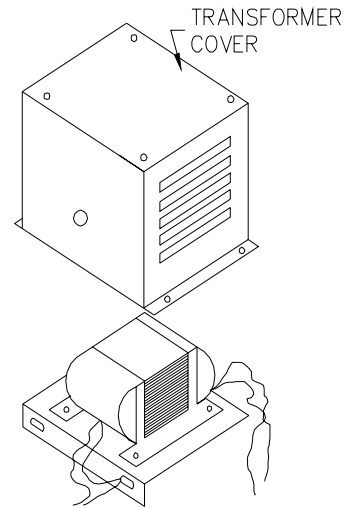

FIG. 3
7. **480V models with single point transformer** - This part must be externally mounted and secured with screws onto the outside of the air handler unit (see fig. 3).
6. **480V "A" model:** The transformer is for use on applications where 480V heaters are being wired into 208/240 volt single phase air handler units. The single point transformer must be externally mounted and secured with screws onto the air handler unit. Use the louvered transformer cover (provided) for protection of this part (see fig. 3). For wiring purposes the wiring on the transformer is labeled and color coded (refer to schematic), Use wire nuts to connect transformer leads to heater.